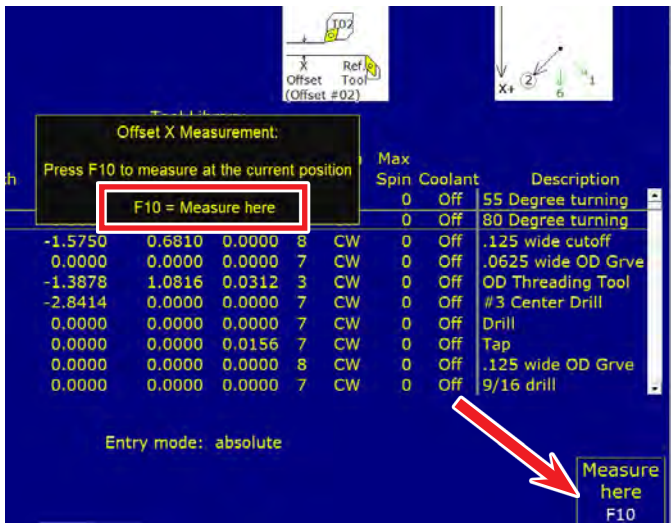

FIGURE 23
D. Click on “Measure Offset X F5”, the “Measure Here F10” (see Figure 23).